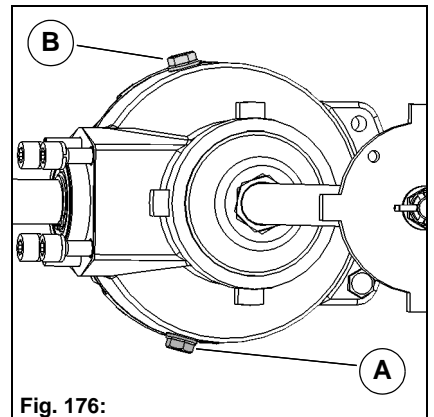

Fig. 176:
1. Place a suitable collecting pan under the drain screw **Fig. 176-A**.
4. Unscrew the filling screw **Fig. 176-B** and fill with SAE 80W90 gearbox oil. Filling volume = 0.4 litres.